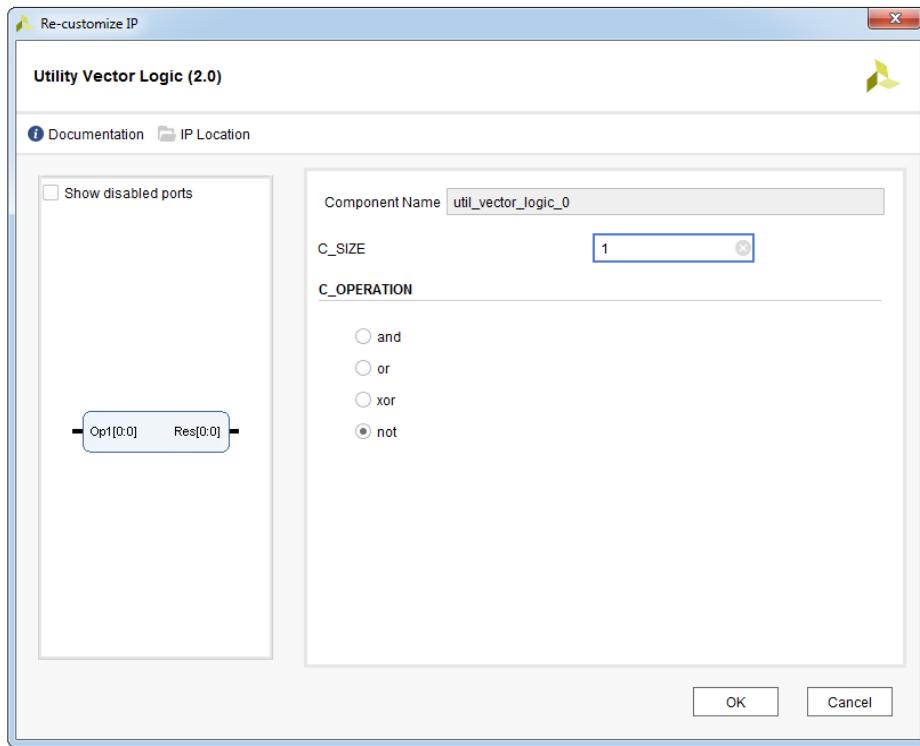

Figure 12.56: Utility Vector Logic (2.0) re-customization IP dialog box
- set the **C_SIZE** to be **1**, see Figure 12.56, and